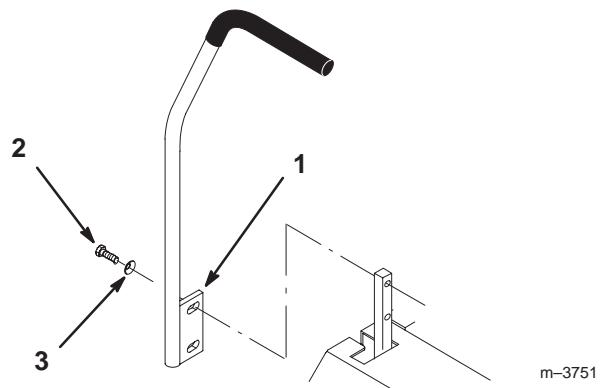

Figure 4
1. Remove the (4) 3/8-16 x 1" (26 mm) bolts and (4) 3/8" spring washers which attach the motion control levers to the control arm shafts for shipping (Fig. 4).
2. Place the levers (with the mounting plate towards the rear) on the outside of the control arm shaft and secure with (4) 3/8-16 x 1" (26 mm) bolts and (4) 3/8" spring washers (Fig. 4).
4. Align the front/rear position of the levers, with each other, in the neutral position. Loosen hardware and adjust by sliding/tilting the lever(s) forward or backward until properly aligned (Fig. 4).